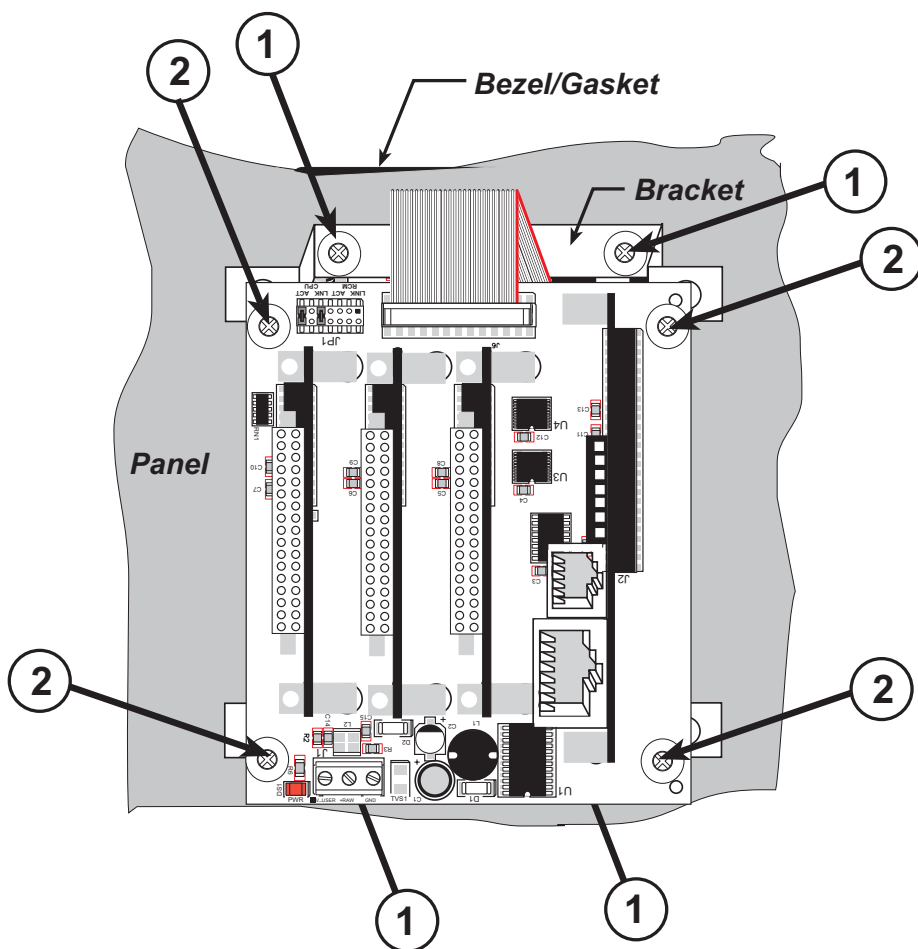

Figure B-10. Install Smart Star Backplane Behind LCD/Keypad Module
2. Use brackets to secure the LCD/keypad module to the panel using the four 4-40 screws and washers included with the LCD/keypad module. The four screw positions are indicated with the number 1 in Figure B-10. If your panel is thick, use a 4-40 screw that is approximately 3/16" (5 mm) longer than the thickness of the panel.
3. Use a ribbon cable to connect header J6 on the backplane to header J1 on the LCD/keypad module. Note the pin 1 positions reflected by the red-colored line in the ribbon cable shown in Figure B-10.
4. Secure the Smart Star backplane using four 4-40 $\times$ 1/2" or 6-32 $\times$ 1/2" screws at the screw positions indicated with the number 2 in Figure B-10.